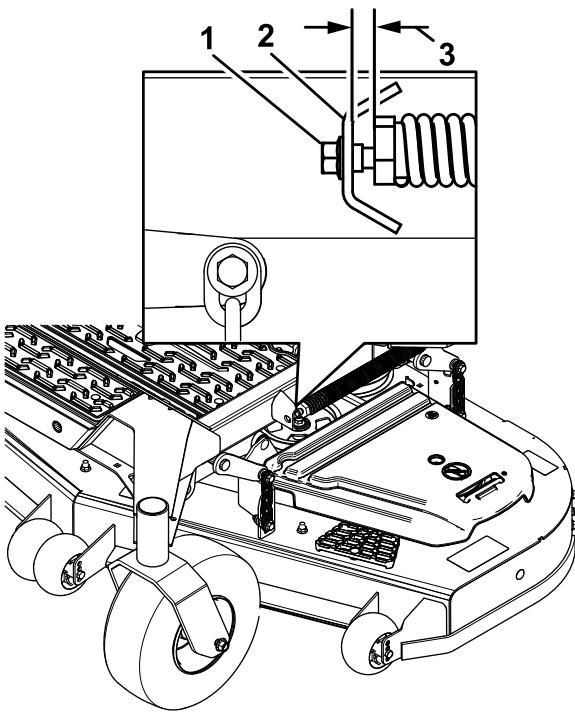

Figure 87
10. Slowly loosen the adjusting screw on the lift-assist spring until you can remove the screw (Figure 87).